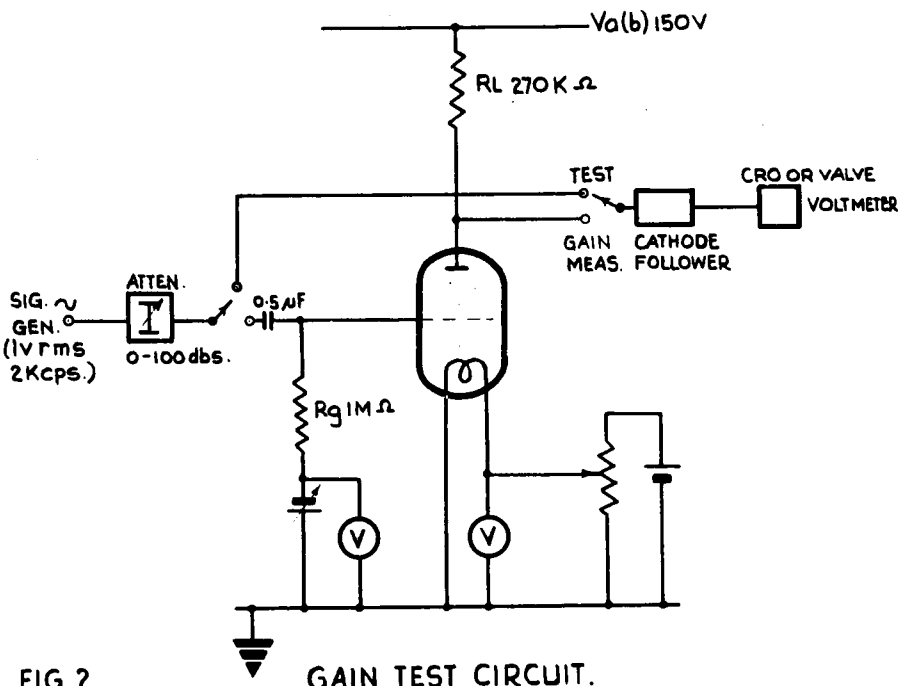

FIG. 2. GAIN TEST CIRCUIT.
4. A typical circuit for the measurement of voltage gain is shown on page 6, Fig.2.